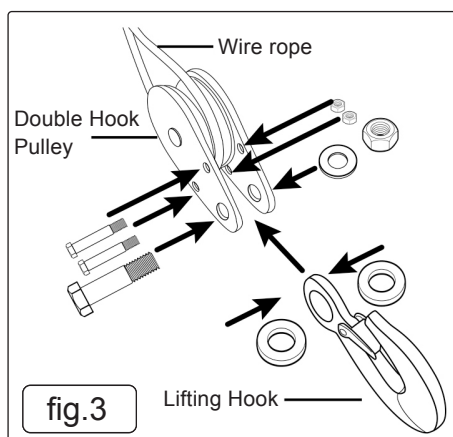
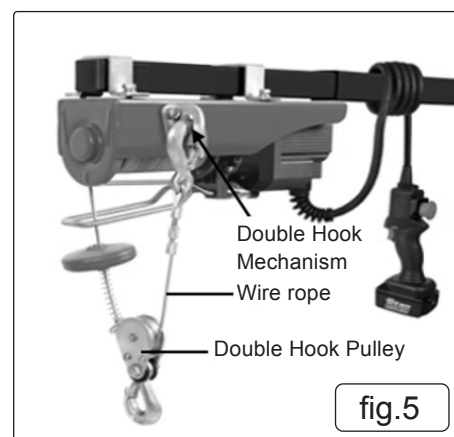

fig.3
fig.5
Fit the return roller (18) and additional hook (7) as shown in Figure 3 – 4. The permanent hook (7) must be attached to the fastening hole (Fig. 5). The load is now raised by two steel cables, which means that the cable hoist can lift twice its rated load.